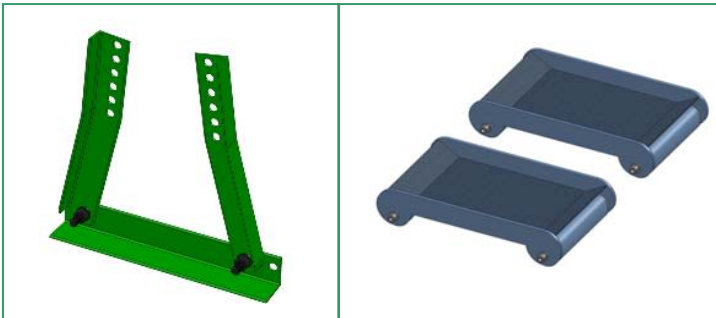

Figure 5.7
5.5 Other tools: include wheel support bracket, car trolley, etc. See figure 5.7